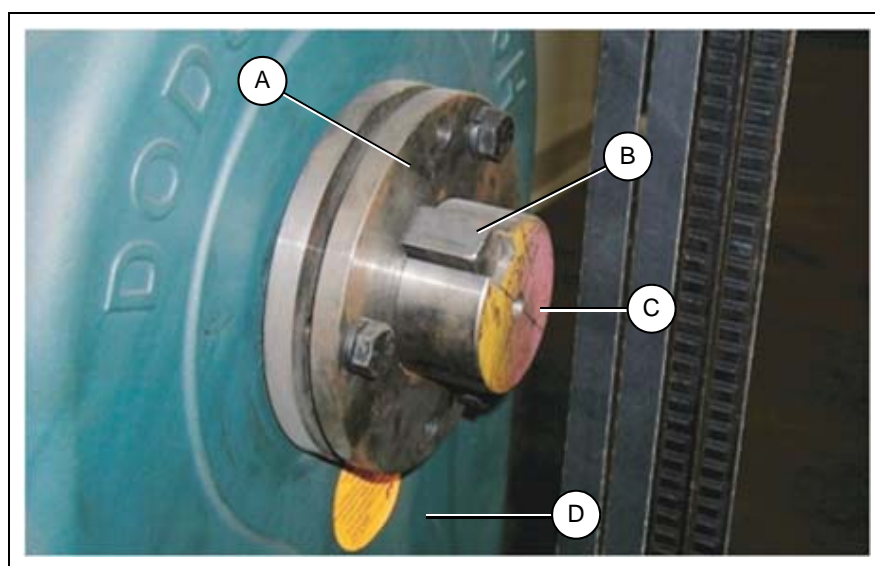
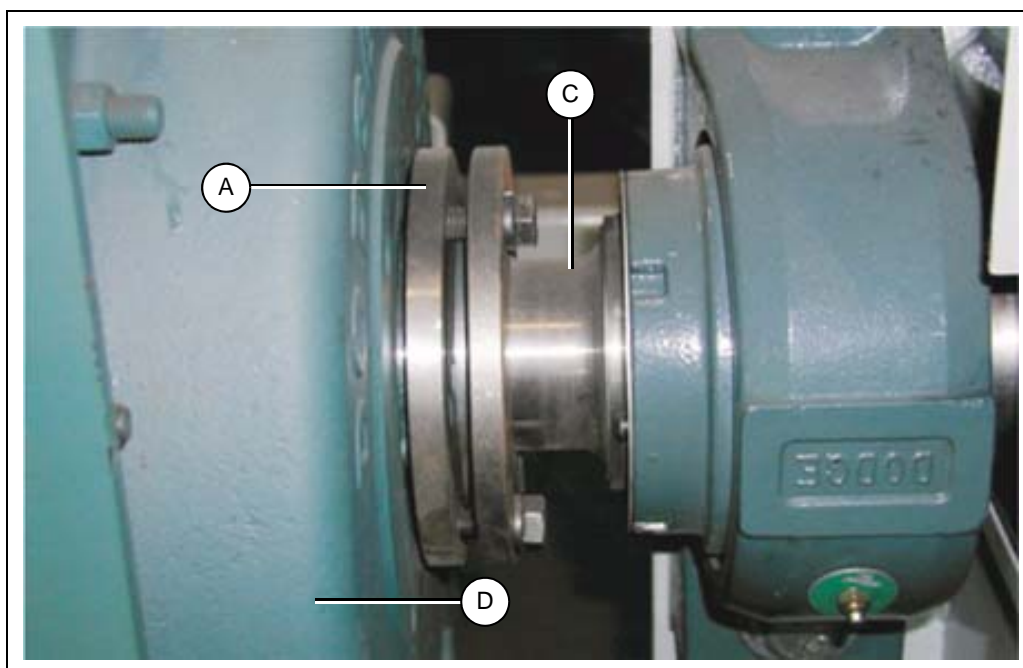

Figure 6R
Figure 6S
1. To aid in the installation of the shaft mount reducer (D) onto the conveyor drive shaft (C), remove any protective coating film from the shaft. *(See Figure 6R.)*
2. Place key (B) in the keyway on the conveyor drive shaft (C).
5. Slide outside back-up bushing onto shaft and secure with supplied retaining ring to reducer hub. Once reducer drive is in place, fully tighten both bushings. *(See Figure 6S on Page 26.)*